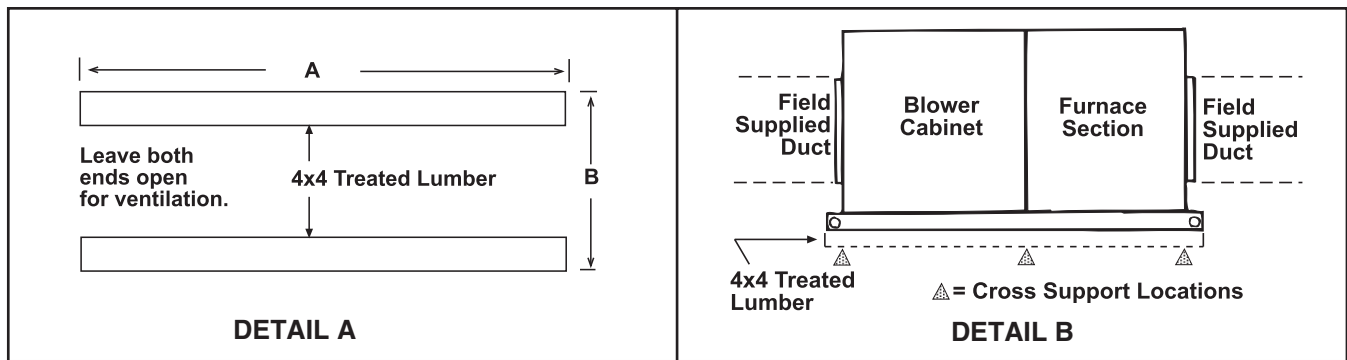

Figure 4. Field-Supplied Support Assembly (Refer to Table 8)
1. Cut treated 4 × 4 wooden rails for length in accordance with dimension A (see **Figure 4**, DETAIL A).
2. Space rails in accordance with dimension B (see **Figure 4**, DETAIL A) so that curb cap skirt fits over edge of boards with rails sitting inside horizontal length of curb cap. If rails are being laid directly on roof, position them as shown in **Figure 4**, DETAIL A).
3. If rails are not being placed directly on roof surface, install cross-supports underneath rails at ends of unit and at all cabinet joints: between blower cabinet and furnace section and between furnace and optional downturn plenum (see **Figure 4**, DETAIL B).
NOTE: The field-supplied, weather-resistant cross-support structure must be adequate for the weight of the system. Cross-supports should run the entire width of the system to support the rails at the recommended locations (see **Figure 4**, DETAIL A).
Dimension (See Figure 4)	Unit Size